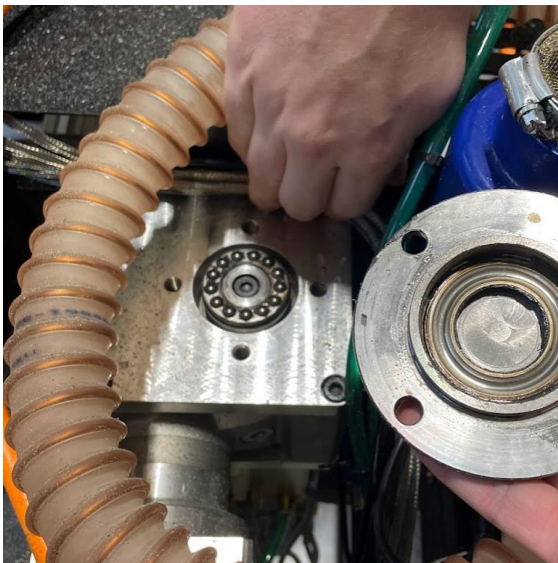

Figure 40c
9. Remove the ball bearing. See fig 40c